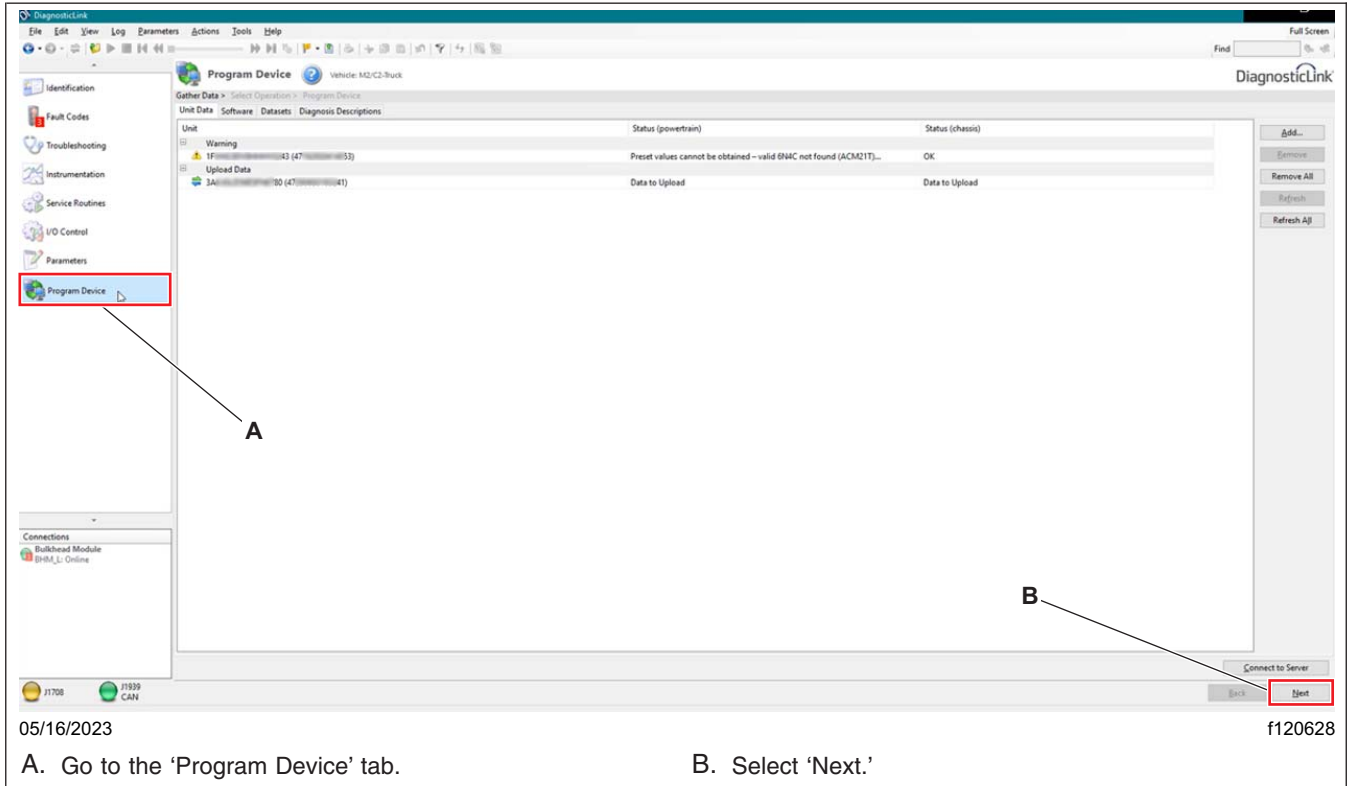

Fig. 9, Navigating to the Program Device Tab
12. Go to the 'Program Device' tab, then select 'Next.' See Fig. 9.